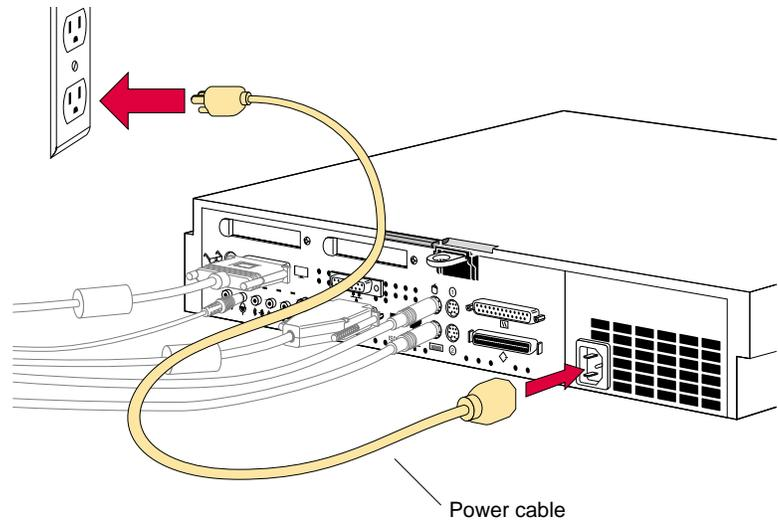

Figure 1-2 Disconnecting the cables from the rear of the Indy workstation
- Figure 1-2** Disconnecting the cables from the rear of the Indy workstation 5
2. Disconnect all cables from the rear of the Indy workstation, as shown in Figure 1-2. You may wish to label the cables so you can reconnect them properly.